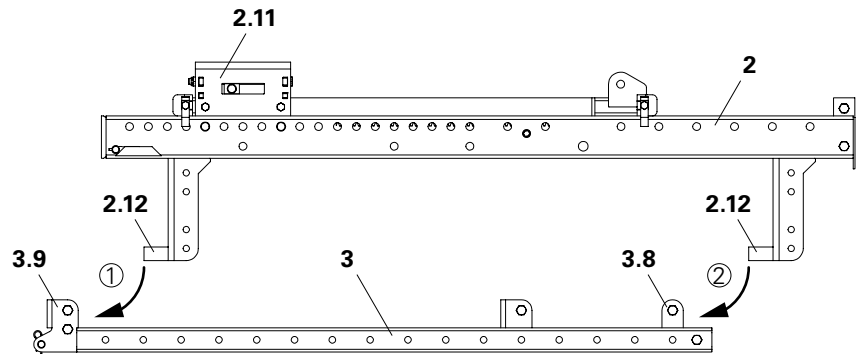

Fig. B1.06
1. Position Platform Beam Support SCS (3) on an assembly platform.
2. Lift the Crossbeam Unit SCS 250 (2) with the U-profile (2.12) firstly into the connection lug (3.9) and then with the U-profile (2.12) into the connection plates (3.8) of the Platform Beam Support SCS (3).
3. Secure the Platform Beam Support SCS (3):
4. Secure Tension Anchor Connector (21) using bolts M24 x 130 (4) and nuts M24 (5).
- (Fig. B1.06 + B1.07)